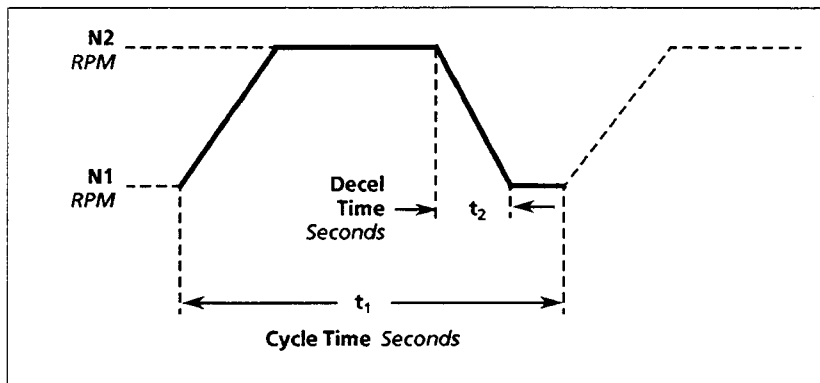

Figure 7 – Speed Profile
- a) Determine speed profile and times for the application. See Figure 7.